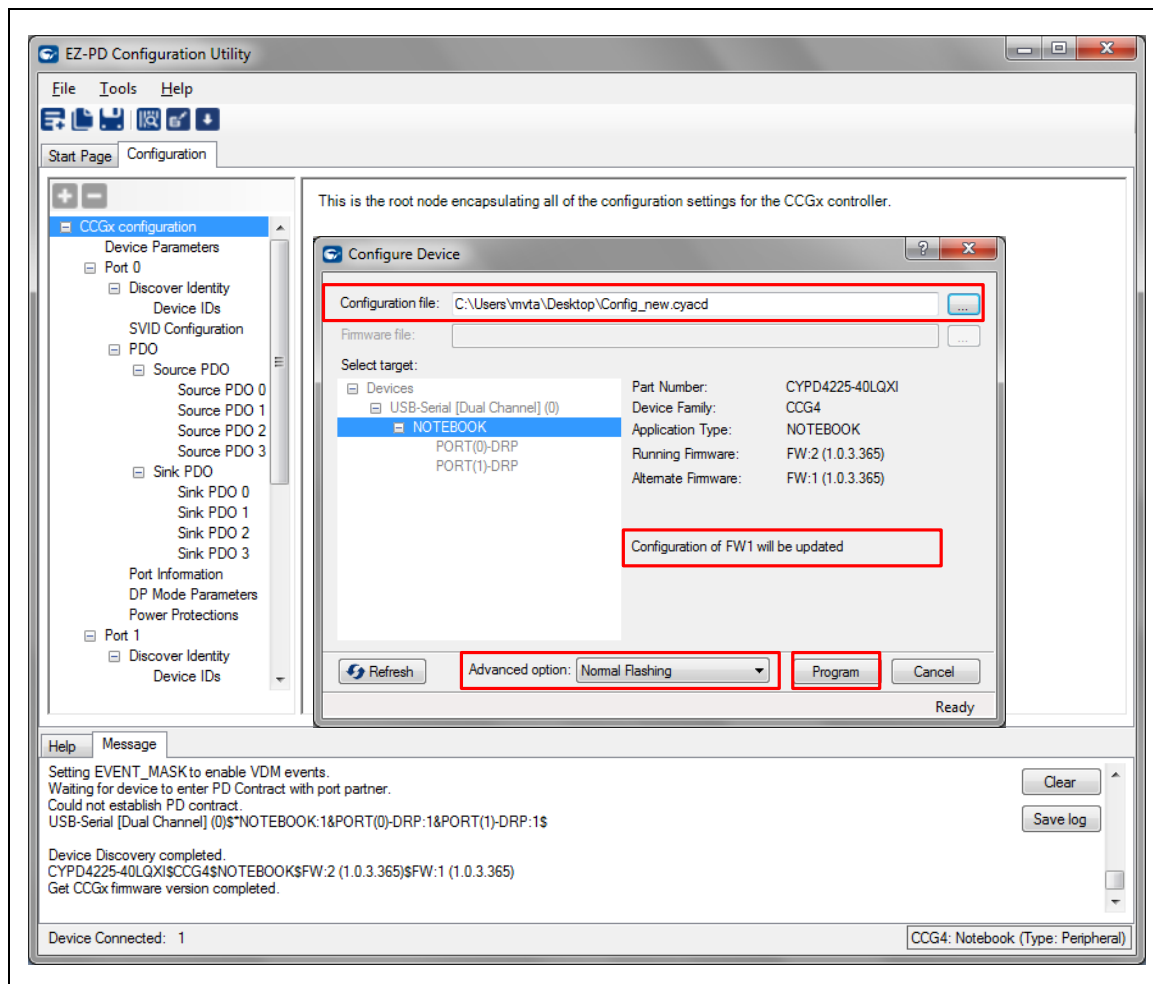

Figure 20 Updating Configuration Table using EZ-PDTM Configuration Utility
5. Select “**Notebook**” as the target device, select the appropriate “cyacd” file to be programmed, then click on the Program button as shown in **Figure 20**.